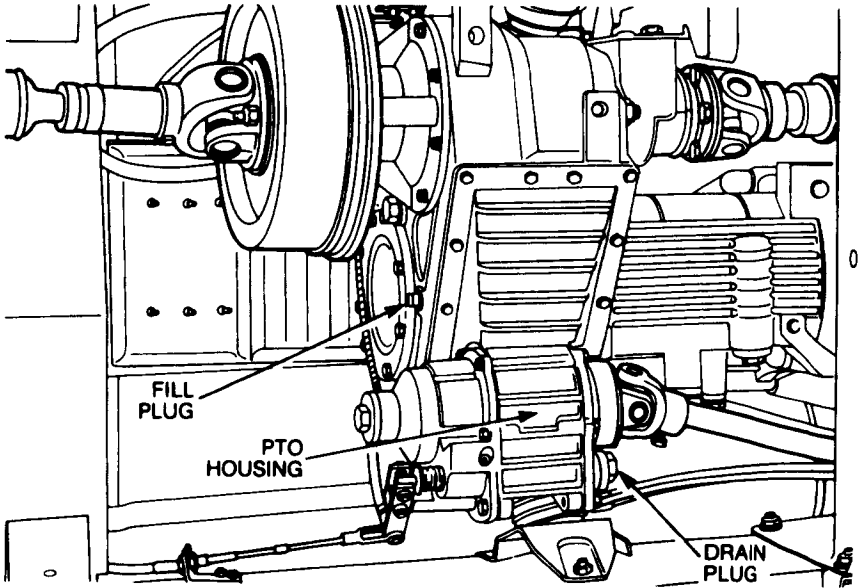

Figure 3-8 Transfer case drain and fill plugs
**327.** The transfer case drain plug is located in the bottom of the PTO housing (see Fig. 3-8). The plug should be cleaned each time the transfer case oil is drained. Use a new sealing washer on installation.
**328.** The transfer case fill plug is located on the rear of the housing (see Fig. 3-8). Fill the transfer case with the recommended lubricant to the bottom of the fill hole.